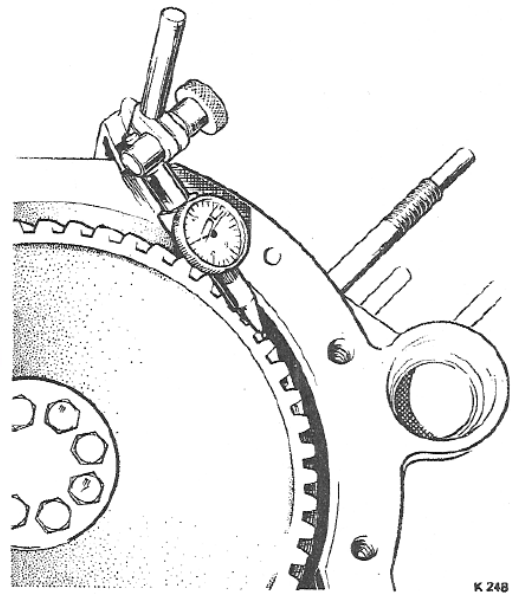

FIG. E47 CHECKING TIMING GEAR BACKLASH
7. Using a dial test indicator in a similar manner to that shown in Figure E47, check the backlash of the distributor driving gear. This should be between 0,05 mm. and 0,10 mm. (0.002 in. and 0.004 in.).